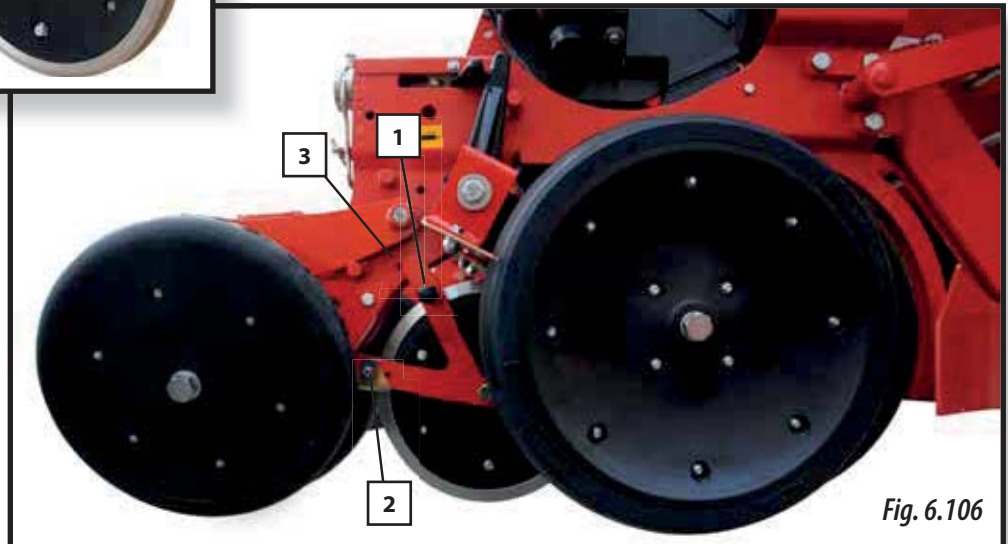
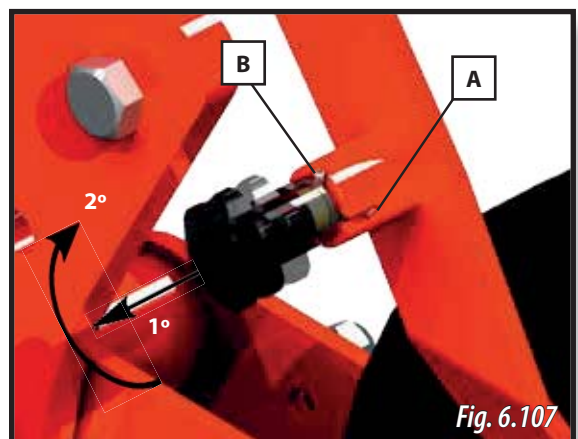

Fig. 6.106
Fig. 6.107
Seed pressing wheels are placed between the wheels that control the working depth and the press wheels (Fig. 6.106).
- 2- Use the other hand to pull the securing knob (1, Fig. 6.106) and place it at the exclusion point (3, Fig. 6.106). To fix this position, turn the securing knob to place the pin at position A (Fig. 6.107).
To unlock the seed pressing wheel from the exclusion position, pull the security knob (1, Fig. 6.106) and turn the pin until it reaches the position B (Fig. 6.107).
SEED PRESSING WHEEL'S SCRAPERS CAN BE ADJUSTED USING THE SCREWS (2, FIG. 6.106). ADJUST THE SCRAPERS AT 3-4 MM AWAY FROM THE WHEEL (MAKE SURE THE SCRAPER DOES NOT TOUCH THE WHEEL UNDER ANY CONDITION).